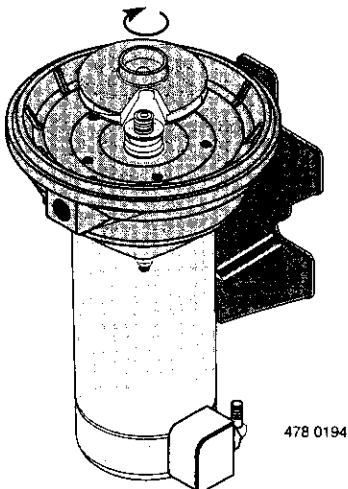

Figure 13
- I. Screw impeller on shaft (clockwise) while holding shaft with 7/16" open end wrench on shaft flats. This will automatically locate seal in place. See Figure 13.